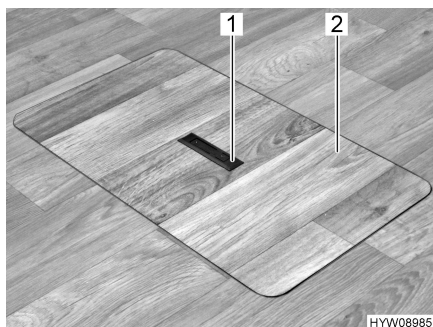
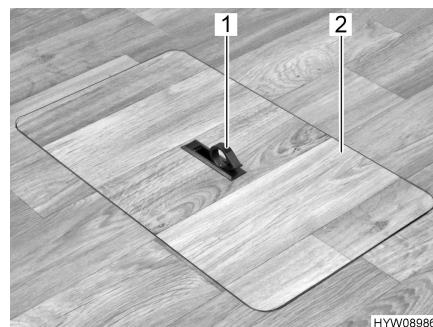

Fig. 23 Floor storage compartment cover (handle recessed)
Fig. 24 Floor storage compartment cover (handle swung out)
- Push one side of the grip plate (Fig. 23,1) downwards. The handle (Fig. 24,1) swivels upwards.
- Remove the cover (Fig. 24,2) upwards.
- Insert the cover (Fig. 24,2) in the frame on the floor.